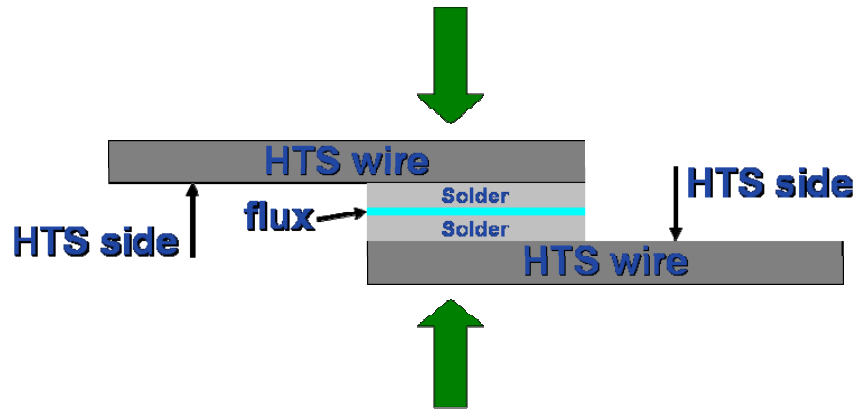

Figure 4. Overlap Joint Preassembly
- c. Flip one of the wires over and position the HTS wires together with the correct overlap of the tinned surfaces as shown below in Figure 4.